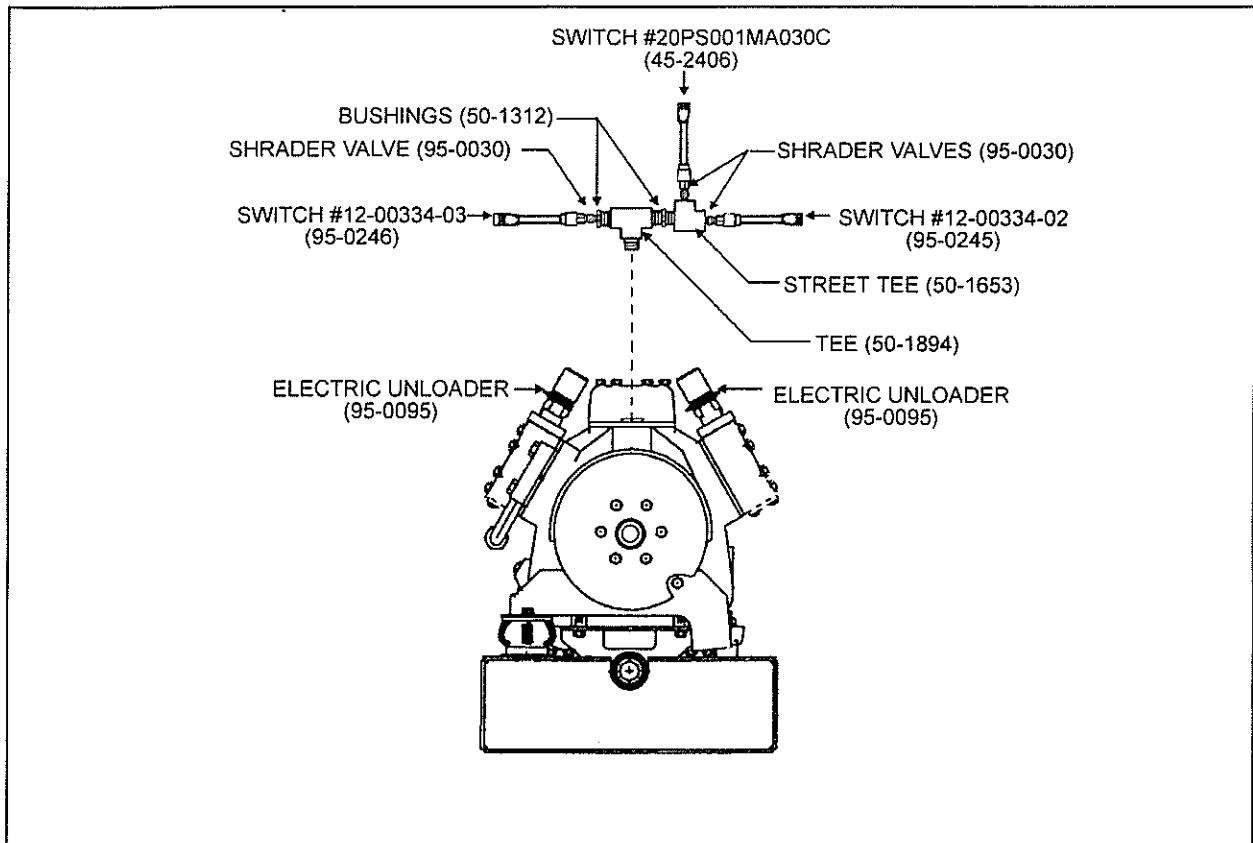

Fig. 2 - Pressure Switch Installation (Suction Side)
2. Remove and discard the low pressure switch (and bushing or elbow if applicable) from compressor body, install a Tee (#50-1894) at an angle pointing to right rear corner of vehicle, two bushings (#50-1312), a street Tee (#50-1653) then three "Schrader" valves (#95-0030) as illustrated in figure 2.
3. Install both low pressure unload switches (#95-0245 & #95-0246) and low pressure switch (#45-2406) on "Schrader" valves as illustrated in figure 2.
10. Connect the existing male connector (C-53) to the Low Pressure Switch #20PS001MA030C (Prevost #45-2406) illustrated in figure 2.